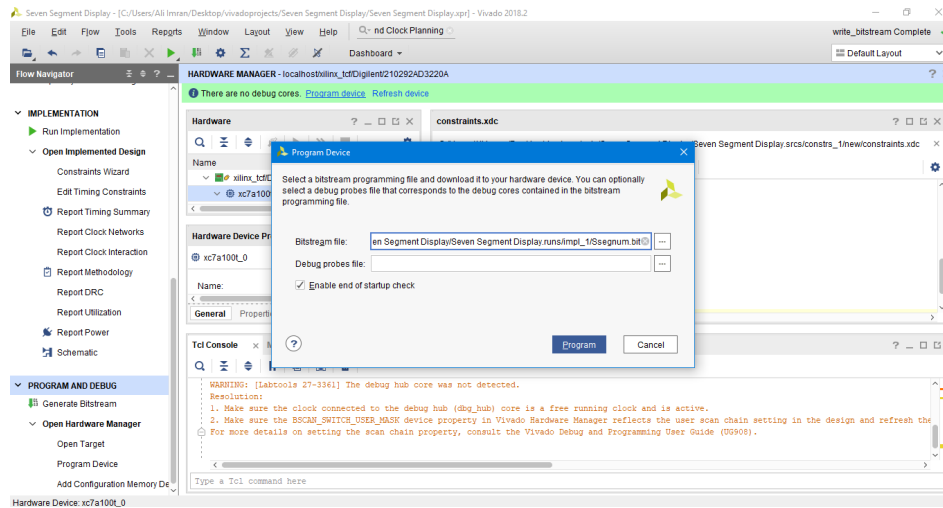

Fig. 3.10: Programming the Bitstream on the FPGA.
2. Vivado will take a few seconds connect to the FPGA. Once done, click on *Program device* from there a dialog box appears and click on *Program* to program your FPGA (Fig. 3.10). The RTL written in